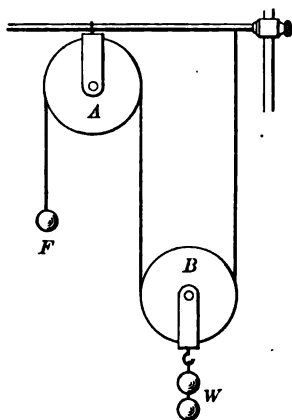

FIG. 85
1. *Pulleys* have been mentioned already. A single pulley is useful only in changing direction, as we learned (§ 89). Two pulleys may be arranged, however, as in Fig. 85. The weight  $W$  is attached to  $B$ , which is called a *movable pulley*. Now  $B$  is held in a loop of the string,